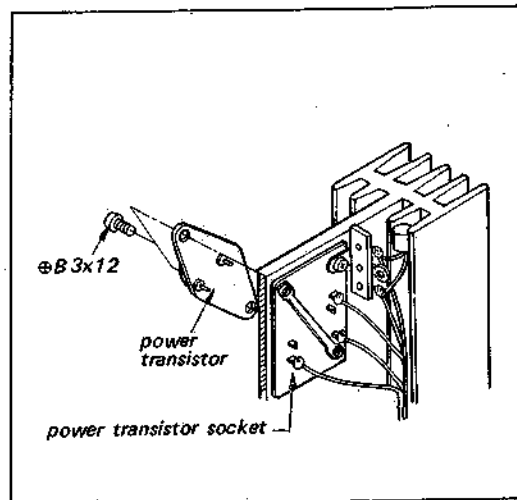

Fig. 2-6. Power transistor replacement
3. Remove the two screws ($\text{Ø}B 3 \times 12$) securing the power transistor to the heat sink with its socket as shown in Fig. 2-6.